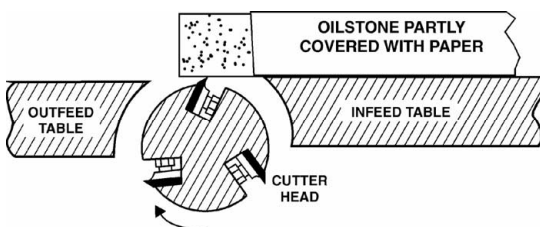

Figure 30
3. To protect the infeed table from scratches, partially cover the sharpening stone with paper. (Figure 30)